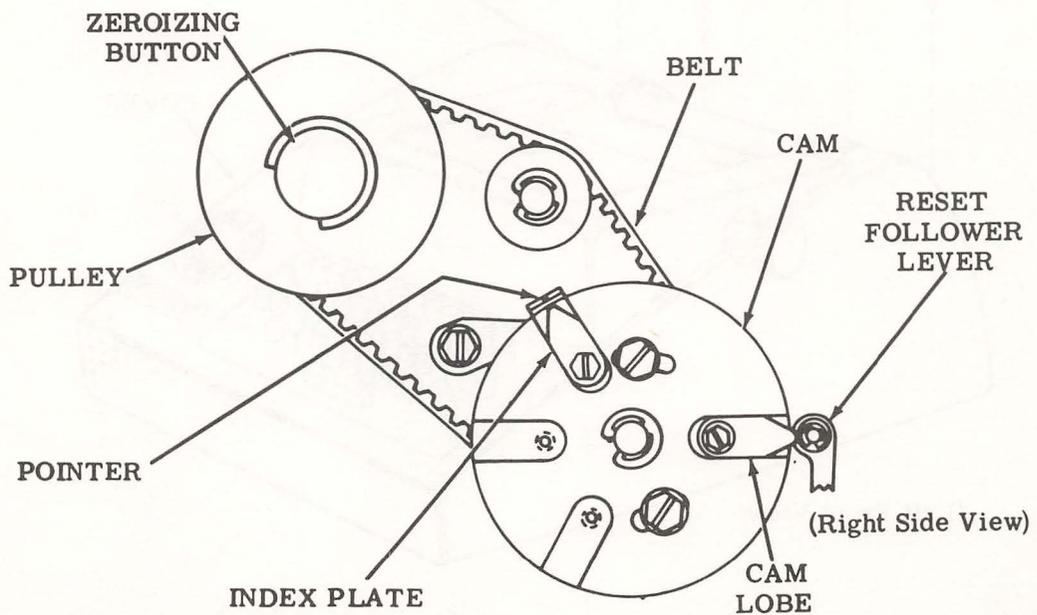

Figure 9 - Zeroizing Position of Platen Drive Mechanism — One Cam Lobe Operation
3.18 Figure 9 illustrates the zeroizing position of the platen drive mechanism for one cam lobe operation. For platen drive mechanisms using more than one cam lobe, see the CAM ZERO POSITION (Platen Drive Area, Sprocket Feed Mechanism) adjustment in the appropriate typing unit adjustment section.